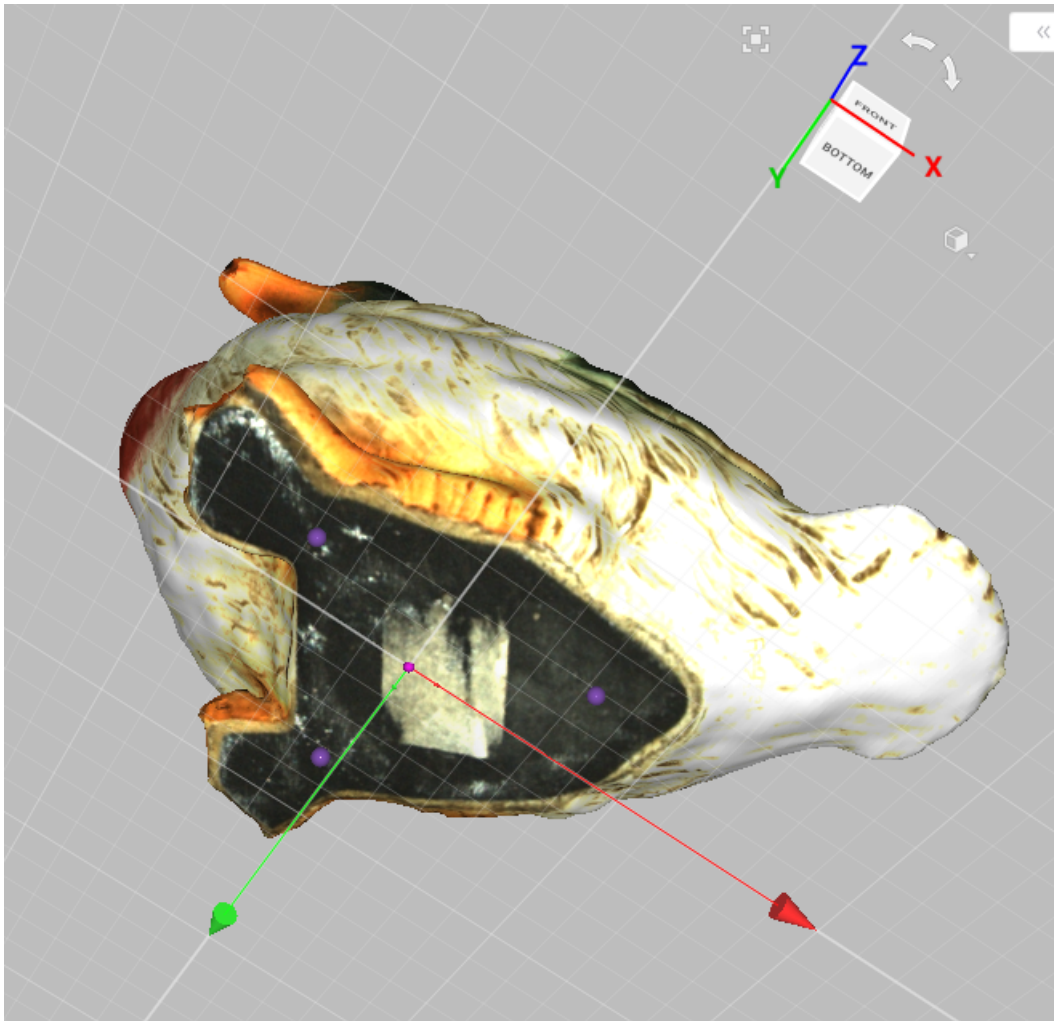

Figure 169: Positioning the model in the global coordinate system.
5. Use **LMB** to specify at least three points on the surface; the plane will automatically pass through their center of mass (see Figure 169). The following conditions will then apply: